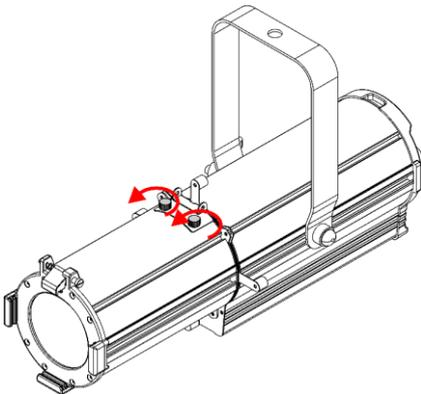

Fig. 10
- 01) Loosen the two **cover plate thumbscrews (09)** (see Fig. 10). **Do not remove the thumbscrews.**